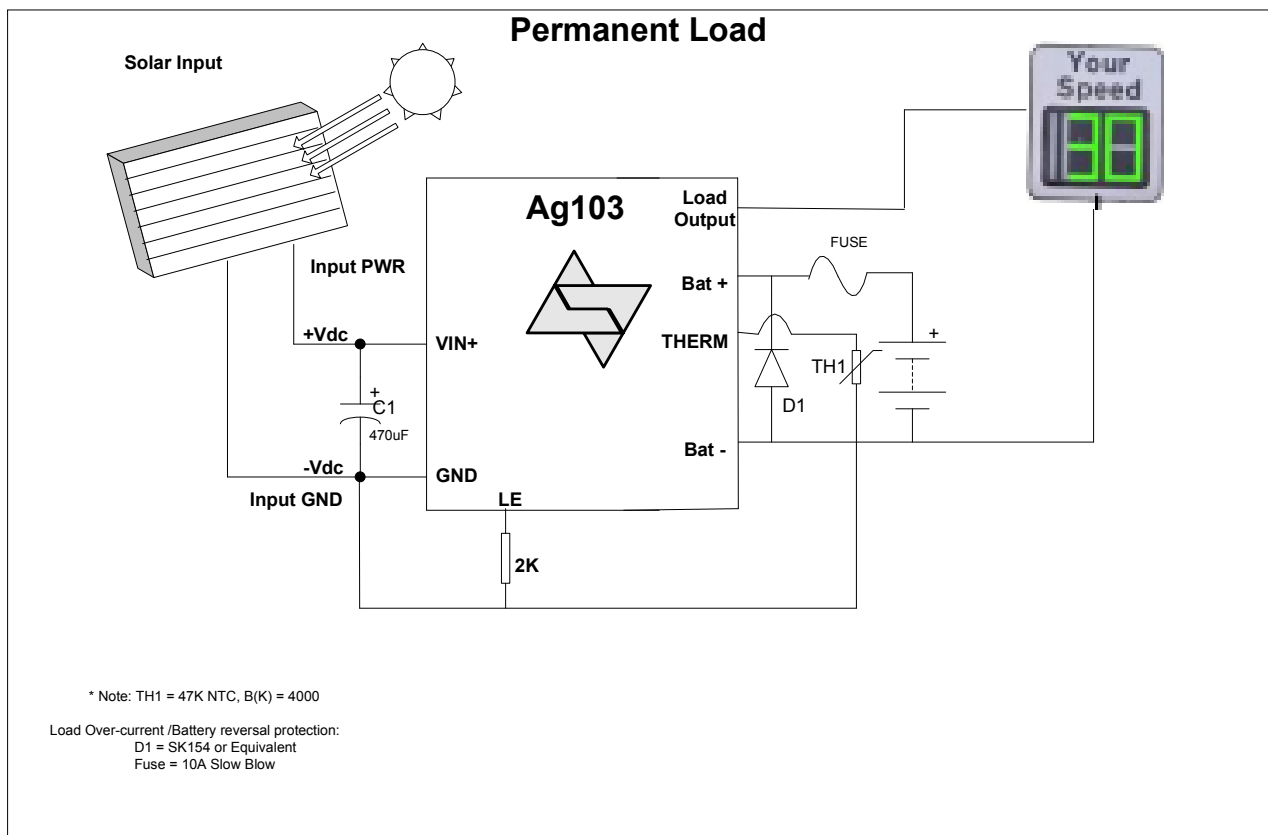
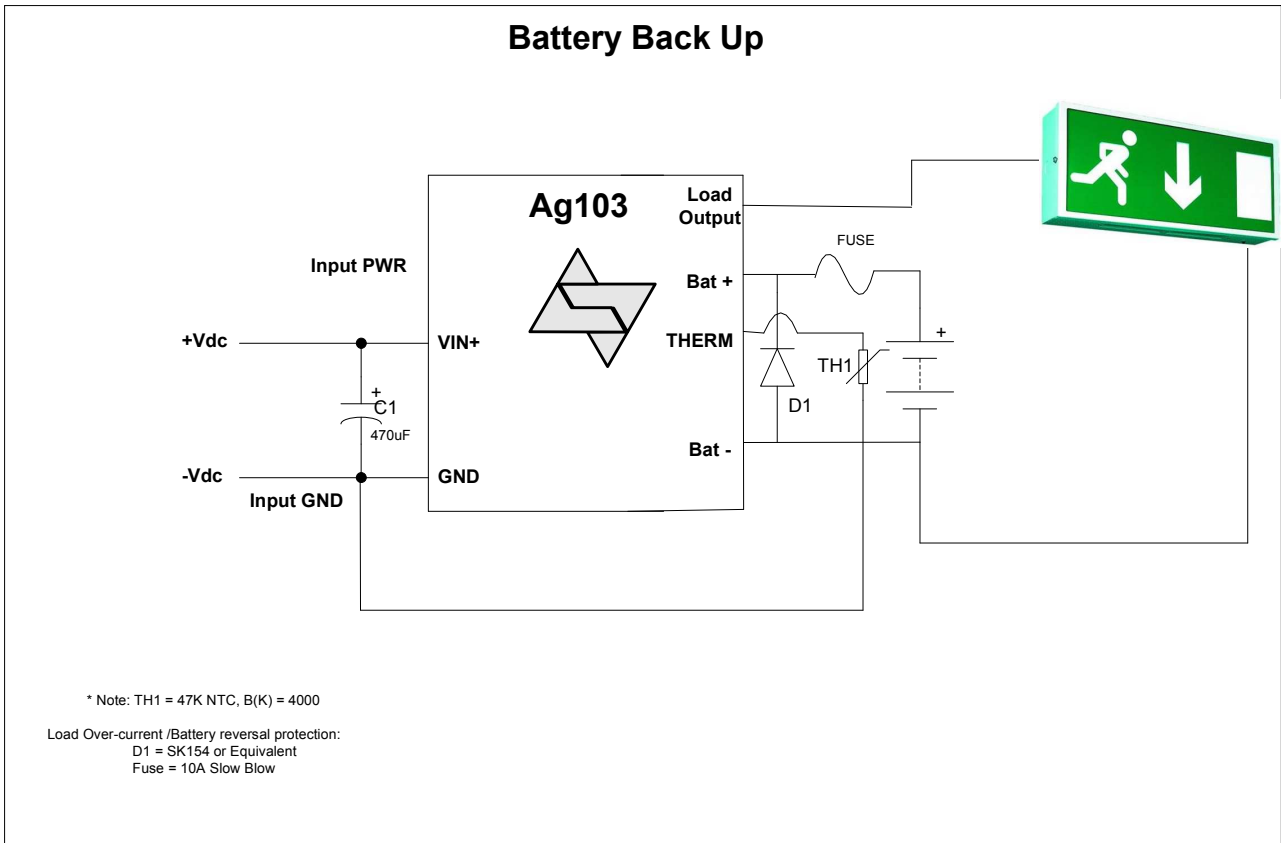

Figure 9: Typical Application - Permanent Load
Figure 10: Typical Application - Battery Back Up
The Ag103 can either connect the battery constantly to the load by connecting a 2k resistor between LE and GND, see Figure 9, or it can be used in a battery back up mode where the battery is only connected to the load if the internal μ -controller detects the input has been disconnected, or the panel voltage has dropped below 9V. This mode is selected by leaving the LE open circuit, see figure 10.
The Ag103 is ideal for solar powered applications such as roadside warnings, parking meters and LED street lighting. Figure 9 shows a very simple method of connecting the Ag103 for this application where the power is permanently connected to the load. However if your application requires only to be used as a battery back up system, for example emergency lighting, alarm systems, door access control and UPS, then a typical application is shown in figure 10.
The Ag103 does not provide battery reversal protection, however Figure 9 shows a simple method of providing this safety feature. This also provides protection for an over-current or short on the Load Output pin.
** Fuse to be fitted for protection against over current on the Load output pin. (see figures 9)